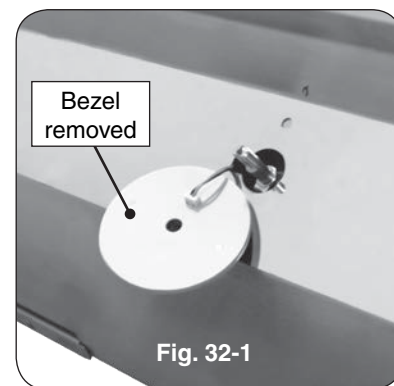

Fig. 32-1
4. Slowly lift away the lighted bezels to clear the valve stems, and let rest as shown in Fig. 32-1.